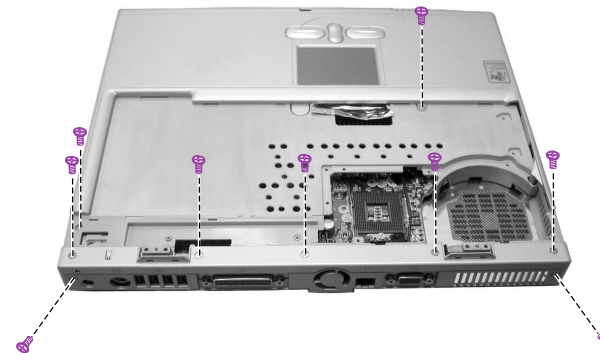

Figure 2-22 Remove nine screws
3. Remove nine screws fastening the base unit cover. (figure 2-22)